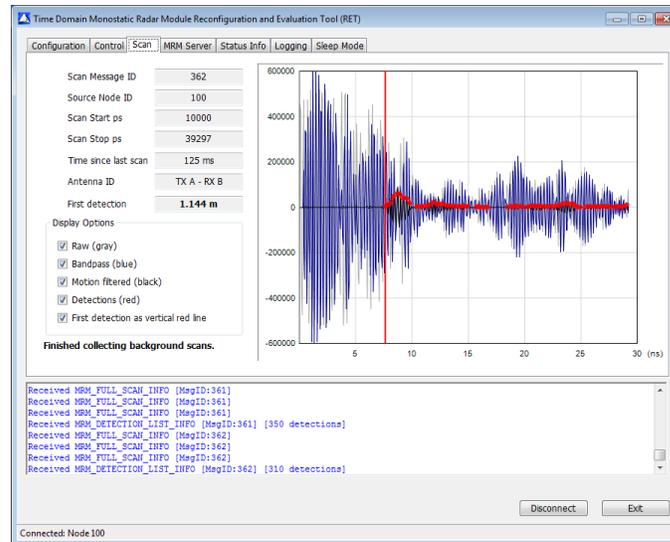

Fig. 12: MRM RET Scan Tab showing detection of person walking
5. Slowly move away from the P440. You will notice a red detection line (and a trailing set of detection points) that will crawl to the right as you move away from the antenna. This is illustrated in **Figure 12**. When you are finished, click the Stop Scanning button on the Control tab.